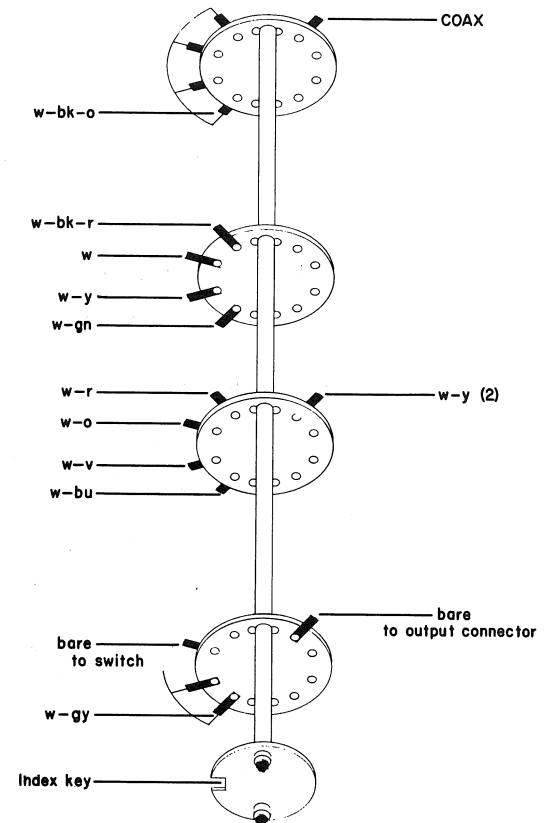

Fig. 2
- ( ) 6. Solder the wires to the switch terminals indicated below (see Fig. 2).